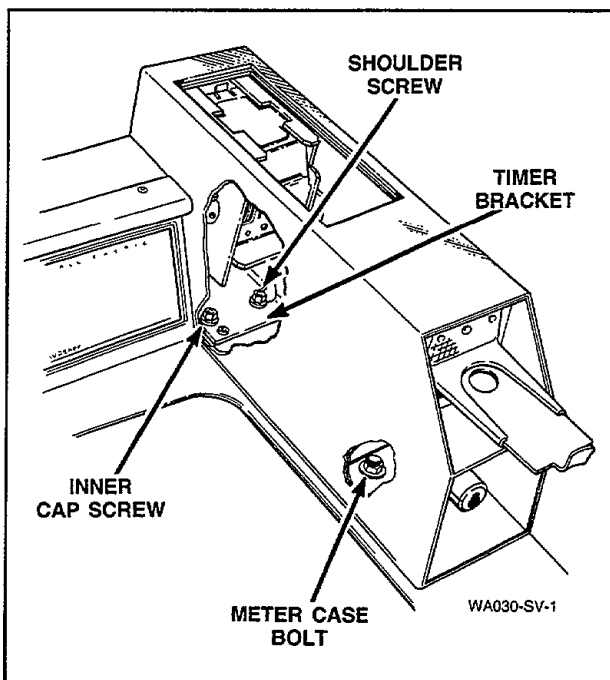

Figure 7
- Remove the inner timer bracket cap screw, *Figure 7*.
- b. Remove the inner timer bracket cap screw, Figure 7.
- i. Open loading door, hold hand under front meter case bolt, Figure 7. Remove nut and lockwasher.
NOTE: When installing meter case, shoulder screw must be installed in the outer hole, Figure 7, to enable the timer bracket to slide under the screw head.